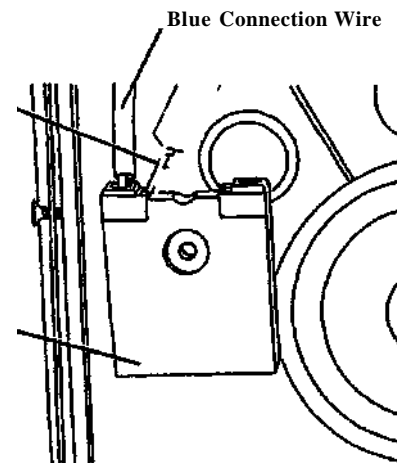

Figure 3. Disconnecting the Lamp Socket
4. (Figure 3): Disconnect the wire from the Left Lamp Socket.